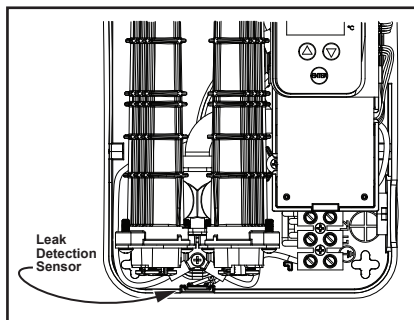

Figure 51 - Leak Detection Sensor Location.
- 8 Locate and gently remove the leak detection sensor, using a flathead screwdriver. Clean the area with rubbing alcohol to remove any remaining adhesive. See Figure 51.
- 1 With the new control board in hand, adhere the hardwired leak detection sensor in the designated location. See Figure 51.